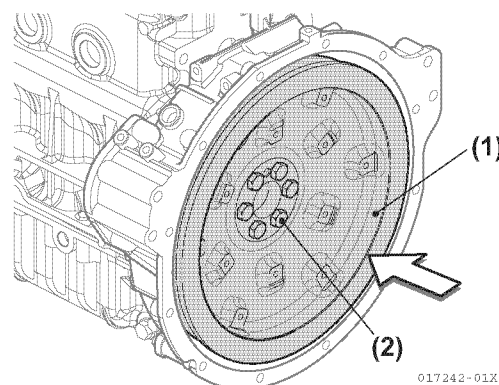

Figure 5-147
- Align the positioning pins, and tighten the flywheel bolts to the specified torque (Figure 5-147).